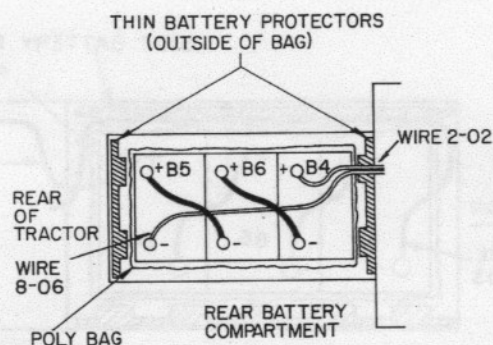

Figure 6. E8HM Rear Compartment
6. Carefully set the batteries in the bag as shown in Figure 6 so that the sides of the bag remain above the top surface of the batteries in equal amounts and all wires are accessible. (It may help to tape the upper edges of the bag to the tractor sides temporarily to permit easy insertion of the batteries.)
7. Place a thin vacuum-formed battery protector between the poly bag and the compartment wall at each end of the compartment. Position the protectors so their corrugations will face the battery walls. See Figure 6.
8. Connect the battery cables and wires in accordance with Figure 6. Coat the terminals after